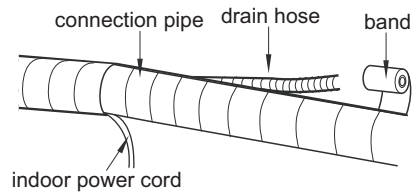

Fig.14
2. Reserve a certain length of drain hose and power cord for installation when binding them. When binding to a certain degree, separate the indoor power and then separate the drain hose. (As show in Fig.14)